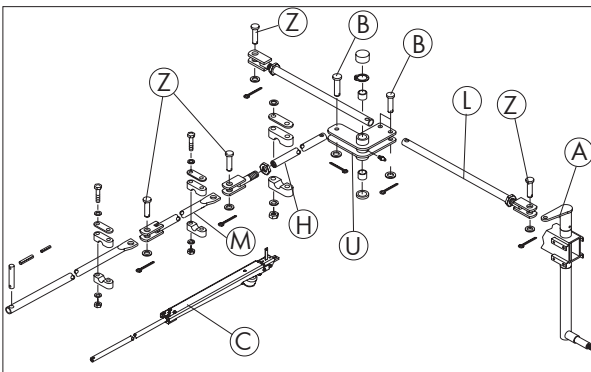

Fig. 2-2
Control levers (A) must face forward in direction of travel (fig. 2-2).